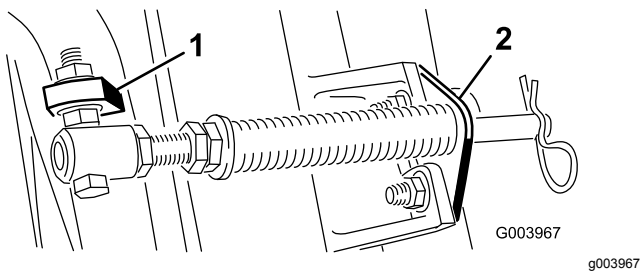

Figure 6
Note: Position the bolt head to the outer side of the tab as shown in Figure 6.
- D. Mount the rod bracket to the cutting-unit tabs with the carriage bolts and nuts (Figure 6).